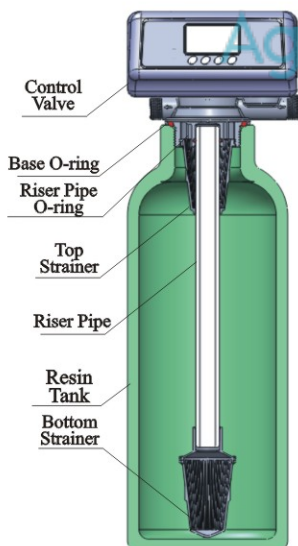

Figure1-1
- ① The filter should be located closely to drain.
- ② Ensure the unit is installed in enough space for operating and maintenance.
- ③ The unit should be kept away the heater, and exposed outdoor. Sunshine or rain will cause the system damage.
- ④ Please avoid to install the system in one Acid/Alkaline, Magnetic or strong vibration circumstance, because above factors will cause the system disorder.
- ⑤ Do not install the filter, drain pipeline in circumstance which temperature may drop below 5°C, or above 50°C.
- ⑥ One place is recommended to install the system which causes the minimum loss in case of water leaking.
① Install control valve
a. As the Figure 1-1 shows, select the relevant riser pipe, glue the riser pipe to the bottom strainer and put it into the mineral tank, cut off the exceeding tube out of tank top opening. Plug the riser tube in case of mineral entering.